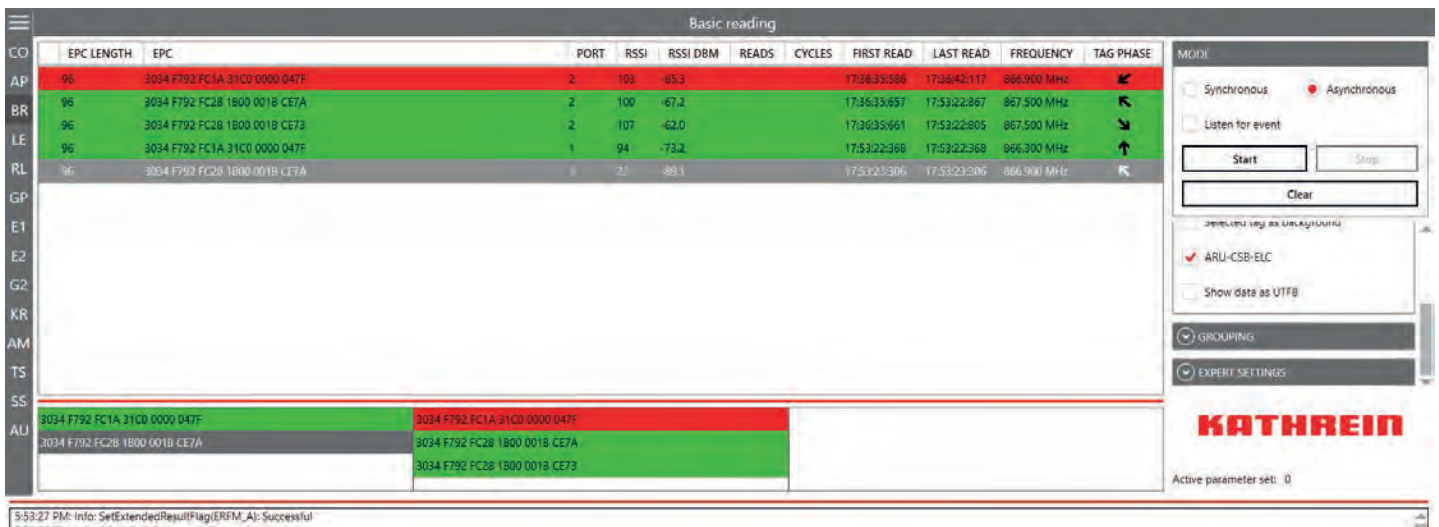

Fig. 58: Basic reading: ARU-CSB-ELC
②		enters and shows RGB values
③	Function	selects between the functions described in Selecting Functions
④	First antenna	the first antenna for the selected function
⑤	Last antenna	the last antenna for the selected function
⑥	Turn-off time	sets the time for how long LED is on for the selected function
⑦	Brightness (live)	changes the LED brightness for all active LEDs (between 0 (auto brightness determined by the integrated light sensor) and 100) ▶ Move the brightness position along the bar to change the brightness of the LED. ⇒The number at ⑧ changes.
⑧		changes the LED brightness (between 0 and 100) ▶ Click + or - to change the brightness of the LED.
⑨	Get	shows the current settings for all LEDs
⑩	Set	sets the new settings for all LEDs for which the settings have been altered
► Click on the arrow (③ in Fig. 58, to select between the following functions: